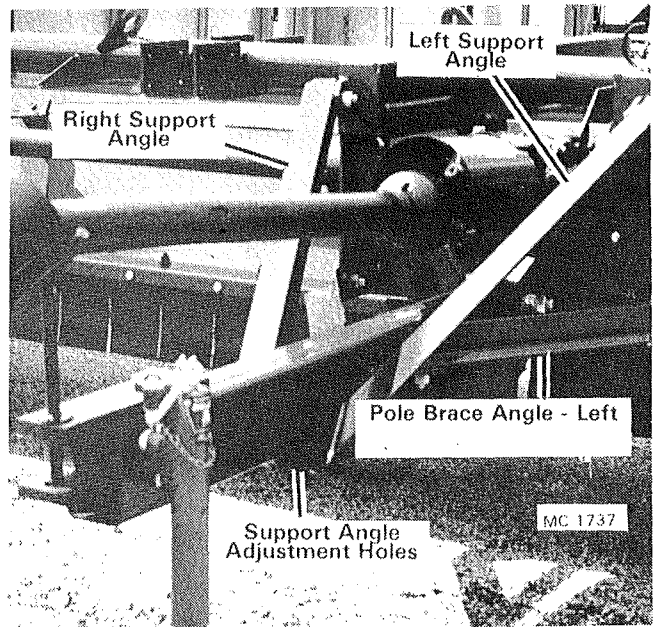

Figure 12
3. The Shredder body must be kept as level as possible from front to rear to insure safe operation and proper shredding action. The Shredder can be leveled by moving the pole support angles forward or back in the pole mounting holes, see Figure 12. Seven (7) holes are provided for adjustment.